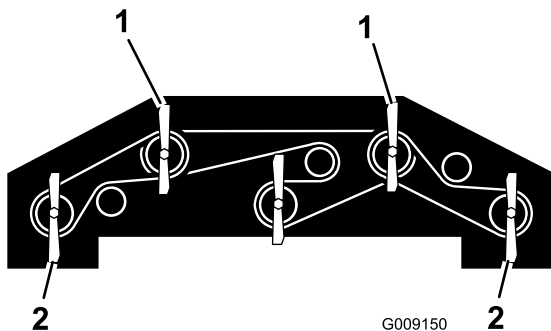

Figure 90
1. Rotate the 2 outer front blades and the winglet blades so that they point straight forward (Figure 90).